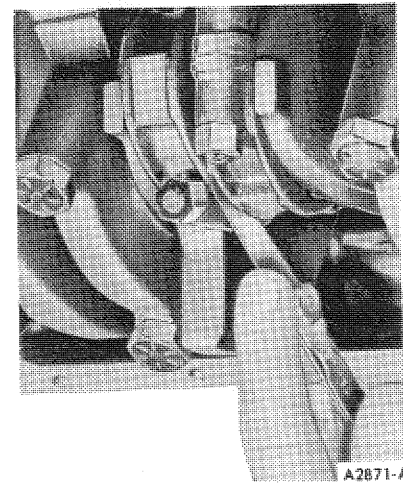

FIG. 65 Checking Connecting Rod Side Clearance
9. After the piston and connecting rod assemblies have been installed, check the side clearance between the connecting rods on each shaft journal (Figure 65).
24. After the piston and connecting rod assemblies have been installed, check the side clearance between the connecting rods on each connecting rod crankshaft journal (Figure 65).